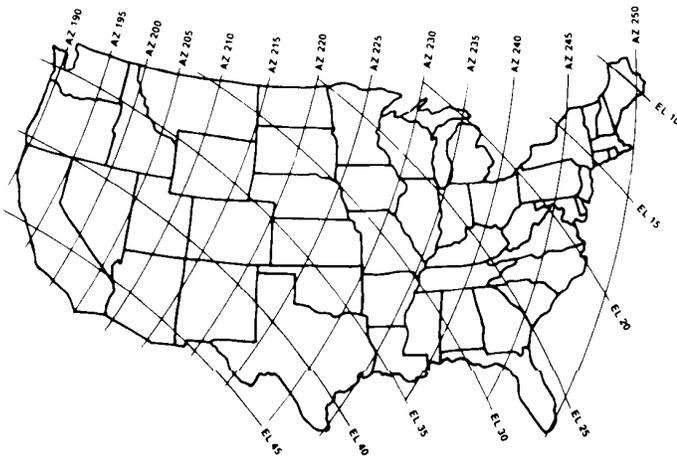

FIGURE 13
STEP 1: Adjust actuator to move antenna towards Satcom F3. Use a framing square to check elevation angle while making this adjustment. See Figure 12. Check elevation angle after each adjustment. Be sure to keep long leg of framing square perpendicular (vertical) when checking elevation angle. See Figure 13 for elevation angles.
Elevation angles are given to Satcom F3 in Figure 13. Try to estimate angle to nearest degree. Exact printouts of elevation angles of all satellites for your area are available on request from Winegard Company. If requested, we must know the latitude and longitude of your location. Your local airport or municipal engineering office can give you this information.